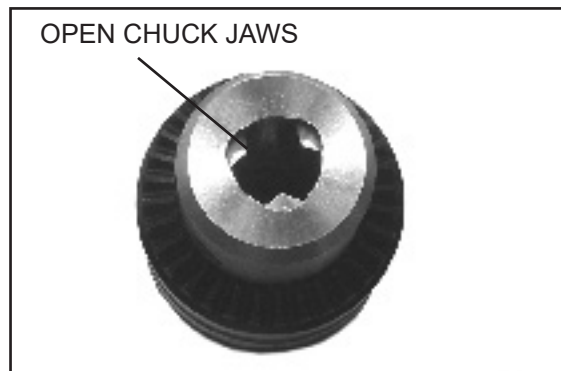

Figure 10
1. Open the chuck jaws as wide as possible to prevent any damage (Fig. 10).